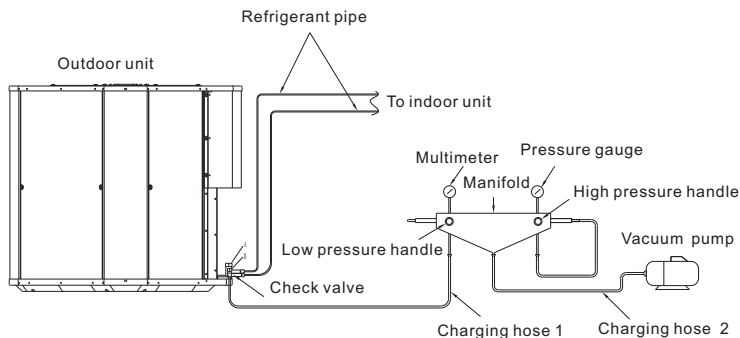

Fig 21
■ When connect pipe length over 5 meters(single distance),use vacuum pump to exhaust the air ; As for the unit utilizing R410A, it must use vacuum pump to exhaust the air no matter how long the pipe is . (Refer to Fig 21)
- ① Open Nut A, connect Charging hose 1 of the manifold to valve A (Valve A and B must be turned off). Then connect Charging hose 2 to the vacuum pump.
- ② Open Low pressure handle of the manifold Lo complete.
- ③ Start the vacuum pump to exhaust the air. Open valve B a little to check whether the air come in or not.(The noise from vacuum pump changes and the reading of gauge alters from negative to zero),and then tighten the valve nut.
- ④ After exhausting the air, close Low pressure handle of the manifold (Lo) completely.